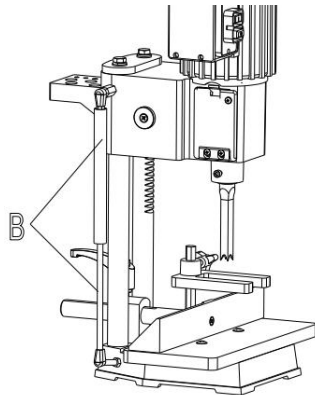

Fig. 5
4.Fig. 5, illustrates the gas spring (B) assembled to the machine. The gas spring (B) keeps the head in the up position.